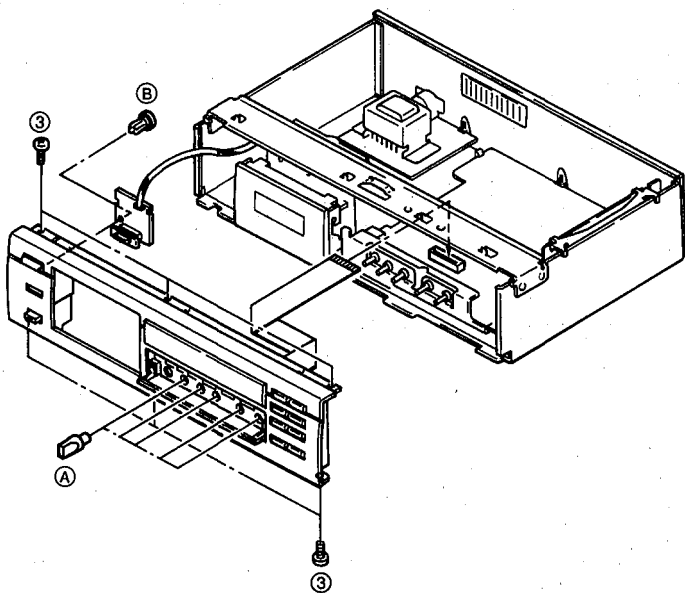

Fig. 2
- a. Remove 6 screws (③) in fig. 2.
- b. Remove 5 knobs (A) in fig. 2 after opening the sub panel.
- c. Remove 1 plastic rivet (B) in fig. 2 and then remove the main circuit board (4).